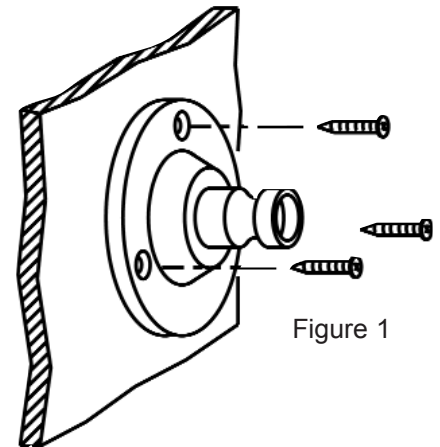

Figure 1
STEP 1 - For easier installation, remove the flange (base) from the speaker by unscrewing the wing nut while at the same time pressing inwardly on the wing nut (see Figure 1). Place the flange flush with the mounting surface and mark the location of the three holes with either a marker or chisel. It is important that the three holes be exactly aligned with the flange, otherwise you might stress the base or make the connection unsteady. Insert 3 wall anchors - see diagrams on back for drilling instructions and use of anchors. (Use appropriate hardware for your specific mounting surface.)
Fold and insert anchor in hole (see Figure 1).